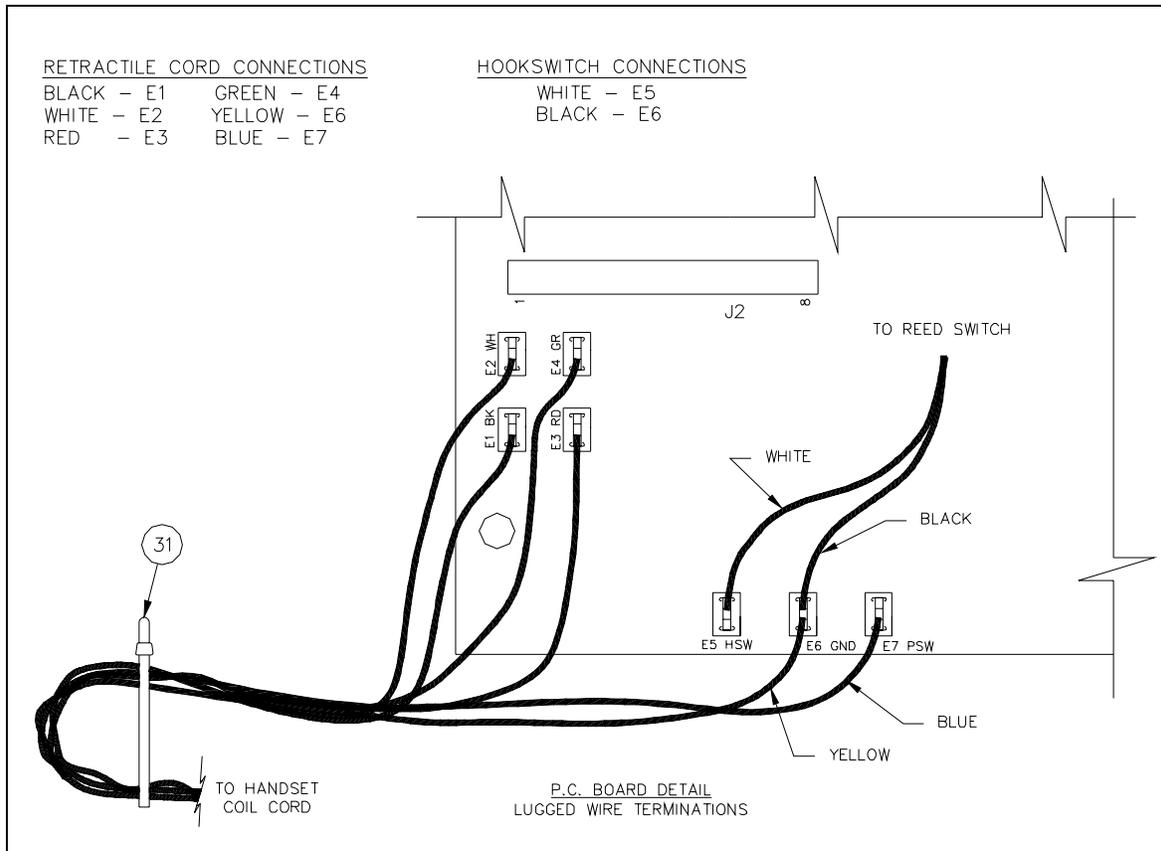

Figure 1.
11. Reconnect the spade lugs. See Figure 1.